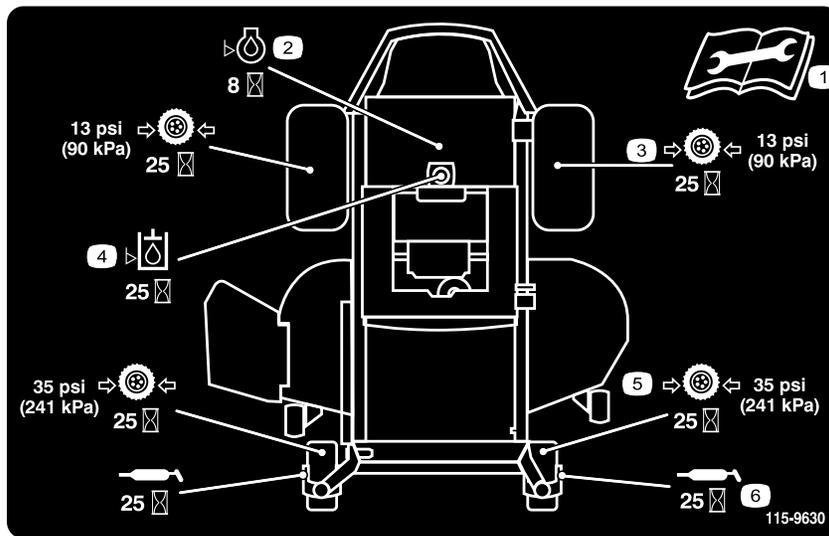

Figure 33
3. Clean the grease fittings (Figure 34 and Figure 33) with a rag. Make sure to scrape any paint off of the front of the fitting(s).
4. Connect a grease gun to each fitting (Figure 34 and Figure 33). Pump grease into the fittings until grease begins to ooze out of the bearings.